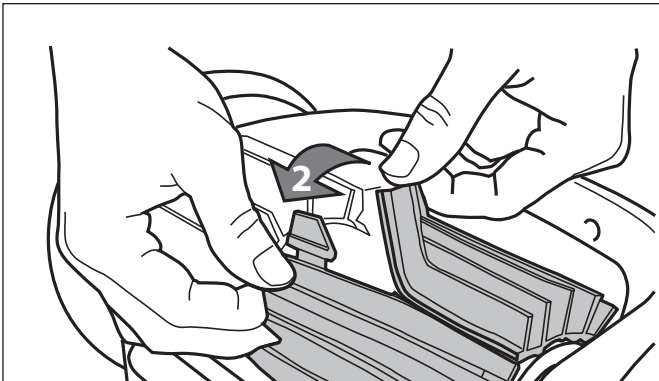

Figure 29. Undo the Tabs of the Brush
2. Separate the edges of the brush and undo the tabs (Figure 29). Remove the worn brushes.